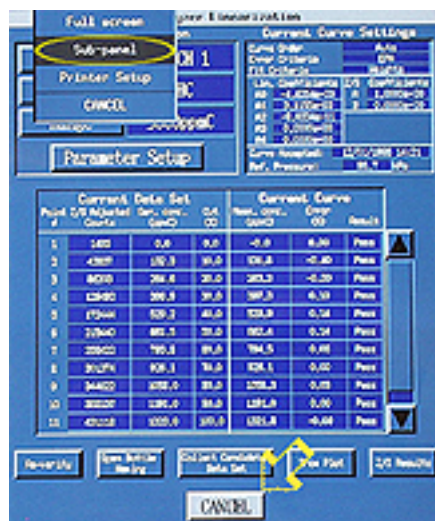

Figure 51
- 163 Click on "Sub-panel." See the circle in Figure 51. Click inside the "Analyzer Linearization" sub-panel. A hardcopy of the sub-panel will print on the control room printer. Staple the hardcopy with the printout from Step 161 and file them in the diagnostics file folder.
Click on "Cancel." See the arrow in Figure 51.